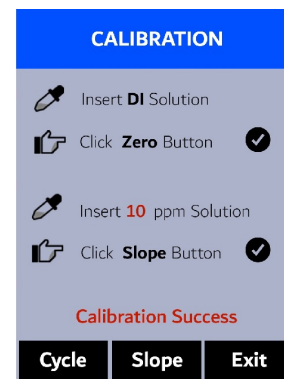

Figure 5.
10. If the calibration succeeds, a checkmark (**✓**), a “**Calibration Success**” message will appear (Figure 5). Otherwise, a warning message is displayed.